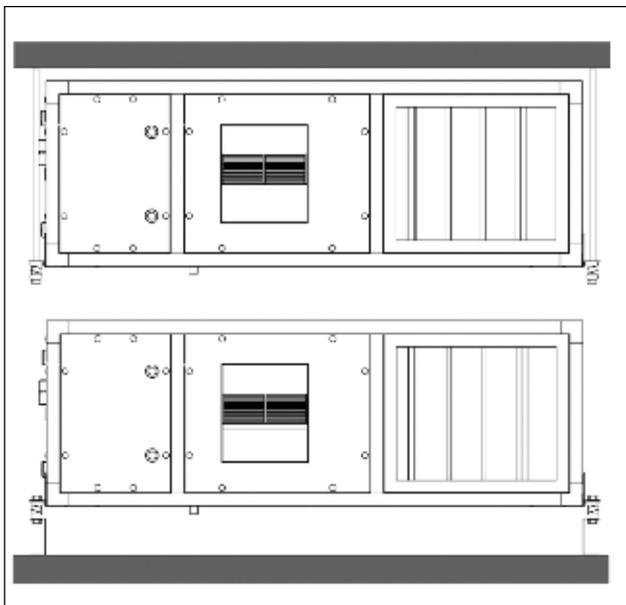

Figure 1
- Place the unit over a solid support structure, suited to unit weight; always interpose proper anti-vibration devices between the unit and the supports (see fig. 1). Avoid rigid connections, they are source of mechanical transmission of vibrations